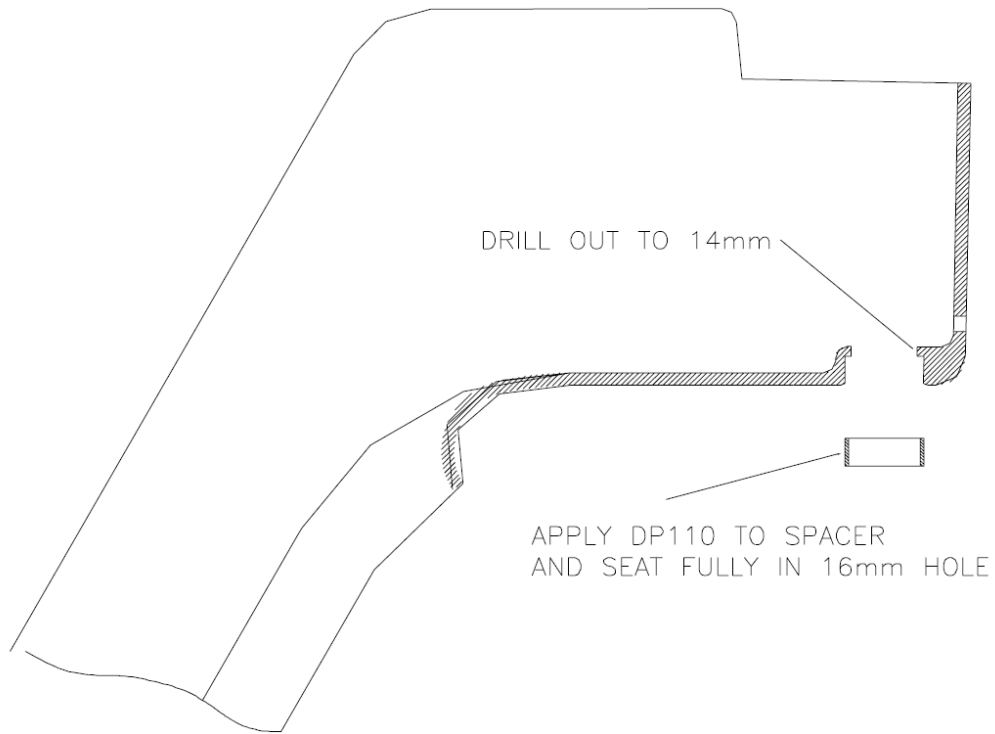

Figure 2.
- 10.3 Use a 14mm drill to open up the holes as shown in Figure 2. Ensure that a lip remains as shown. Apply DP 110 to and insert the Upper Rudder Bearing Spacer P/N 20-5530-00-99 as shown in Figure 2